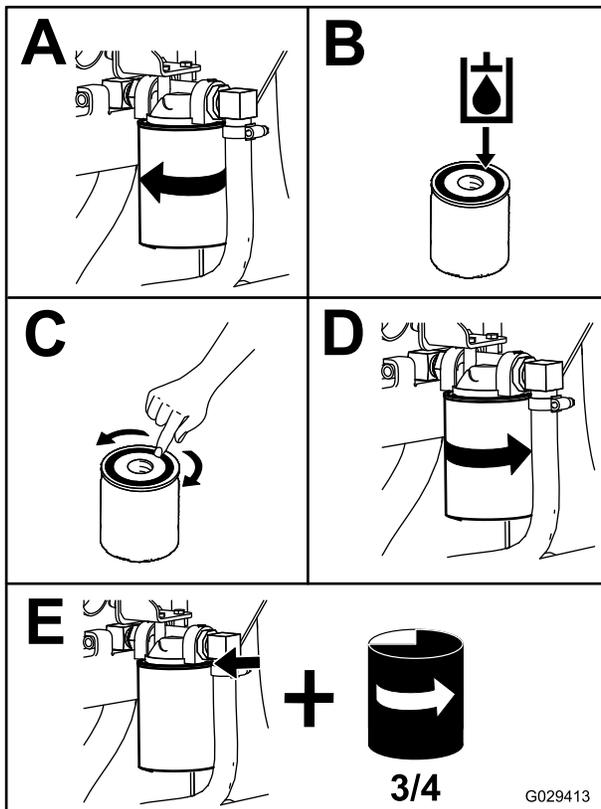

Figure 58
4. Place a drain pan under the filter and replace the filter (Figure 58).